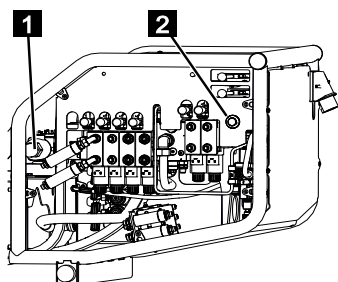

Fig. 171
3. Push in the [platform] valve (Fig.171/1) and lock it by turning it clockwise.
4. Press and hold the button [emergency mode] (Fig.171/2).